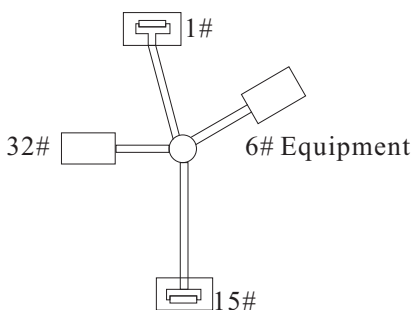
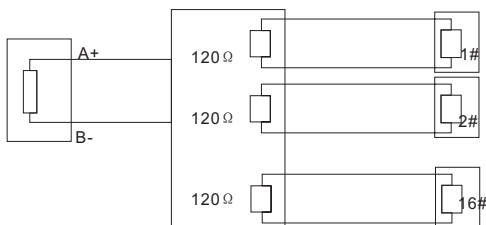

Figure3
Figure4
b) The connection of 120 termination resistor: See to single system connection. In some circumstances user adopts a star configuration in practical connection. The termination resistors must be connected to the two equipment that are farthest away from each other, such as equipment 1# and 15# in figure3. As the star configuration is not in conformity with the requirements of RS485 standards, problems such as signal reflections, lower anti-interference performance arise when the cables are long I the connection. The reliability of control signals is decreased with the phenomena that the dome does not respond to or just responds at intervals to the controller, or does continuous operation without stop (refer to figure4)